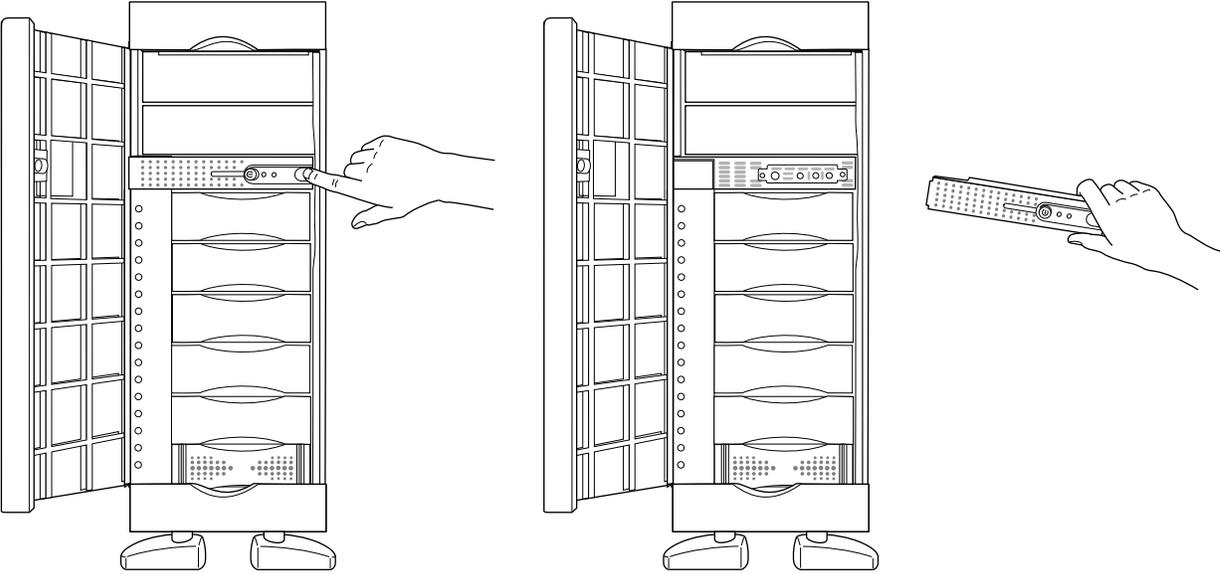

Figure 5-17 Removing the Front Bezel Crossbar
- With your index finger, press against the catch on the inside of the recess in the crossbar, on the outside (right or top) of the recess. This recess is where the door lock fits. See Figure 5-17.